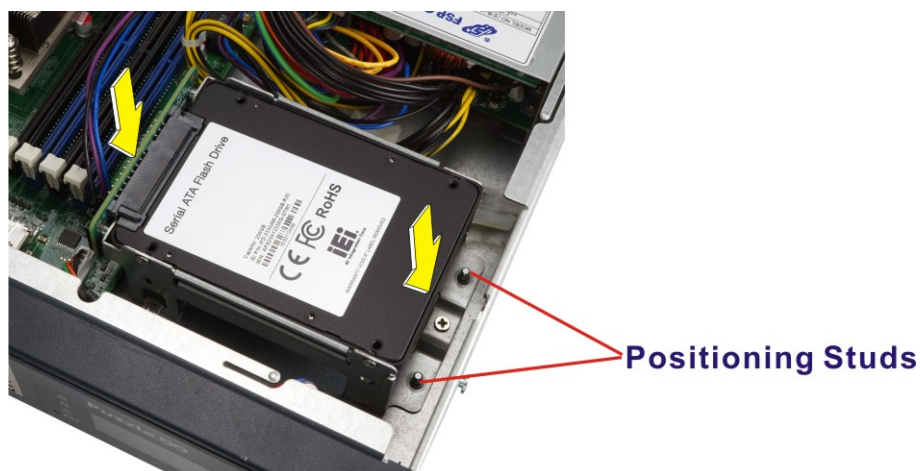

Figure 3-5: HDD Installation
- Step 3:** Insert an HDD into the bracket until the HDD is properly connected to the SATA connector. Secure the HDD with four retention screws (M3*4). See **Figure 3-5**.
Step 4: Re-connect the SATA connector module to the motherboard. Make sure the two positioning studs on the chassis go through the two small holes on the HDD bracket (**Figure 3-5**). Secure the bracket to the chassis with three screws removed previously.